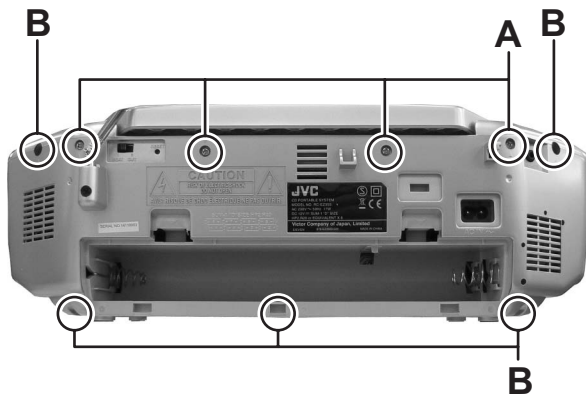

Fig.1
#### 3.1.1 Removing the Rear cabinet assembly (See Fig.1 to 4)
- (1) Remove the four screws **A** and five screws **B** attaching the Rear cabinet assembly. (See Fig.1)